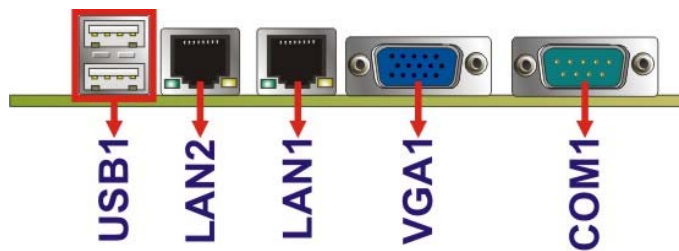

Figure 3-20: External Peripheral Interface Connector
CN Location: See **Figure 3-20**
- CN Location:** See **Figure 3-20**
| CN Location: | See Figure 3-20 |